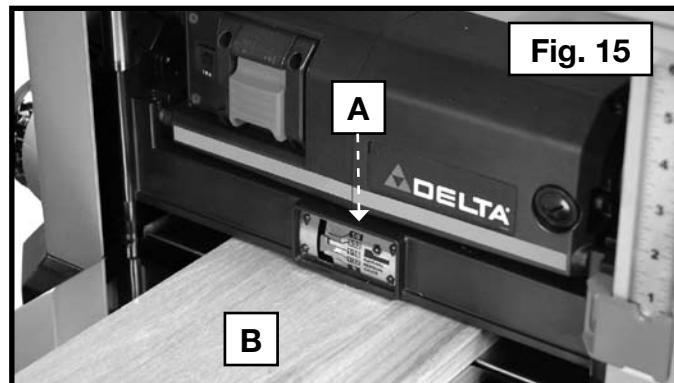

Fig. 15
Your planer is equipped with a material removal gauge (A) Fig. 15. It is used to indicate the amount of wood that will be removed in one pass with the carriage set at its current height.
1. Slide approximately 3" of the workpiece (B) Fig. 15 under the middle of the carriage.